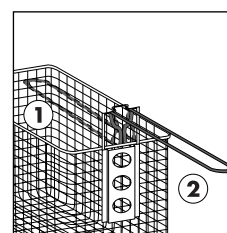

fig. 2
- Remove the lid lifting it by the handle. Turn the folding handle of the basket until it locks into place (pos. 2, Fig. 2). Remove the basket by lifting it upwards.
- Place the food to be fried in the basket, without overfilling (max 1.3 kg of fresh potatoes). When frying ensure the food is evenly distributed in the basket. If cooking from frozen remove as much ice as possible by shaking the basket before placing it in the oil (see Frying Frozen Foods paragraph). Check that the handle of the basket is correctly positioned (pos. 2 in Fig. 2).